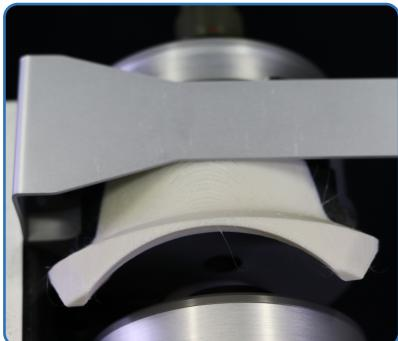

Figure 19: Put the anti-dust cap
2. Place the anti-dust device (Figure 19)